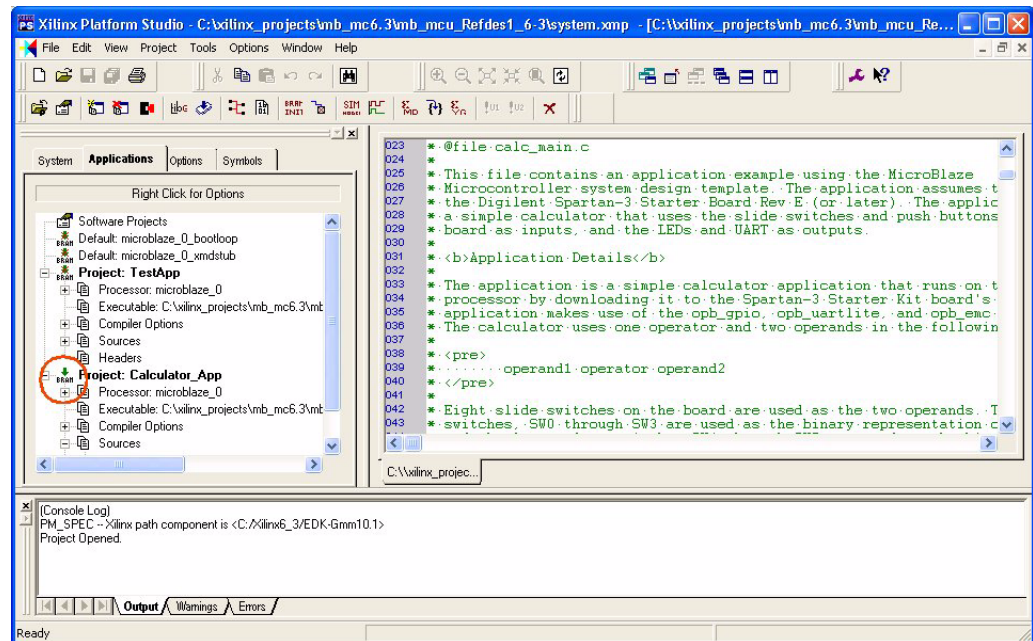

Figure 2-3: Software Selection when FPGA is Configured
3. In GDB, select the “File>Target Settings” to display the Target Selection dialog box as shown in Figure 2-3.
4. Configure the Target Selection dialog box to match Figure 2-3, then click OK.